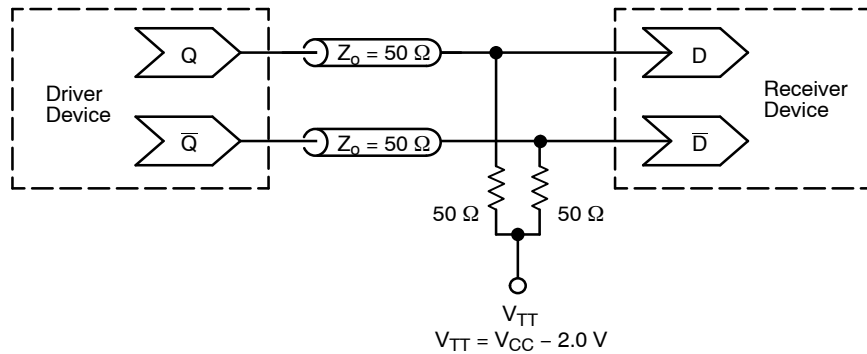

Figure 10. Typical Termination for Output Driver and Device Evaluation
2. All loading with $50\ \Omega$ to $V_{CC} - 2.0\text{ V}$ (see Figure 10).
2. All loading with 50 Ω to $V_{CC} - 2.0\text{ V}$ (see Figure 10).
1. Measured using a 750 mV source, 50% duty cycle clock source. All loading with $50\ \Omega$ to $V_{CC} - 2.0\text{ V}$ (see Figure 10).